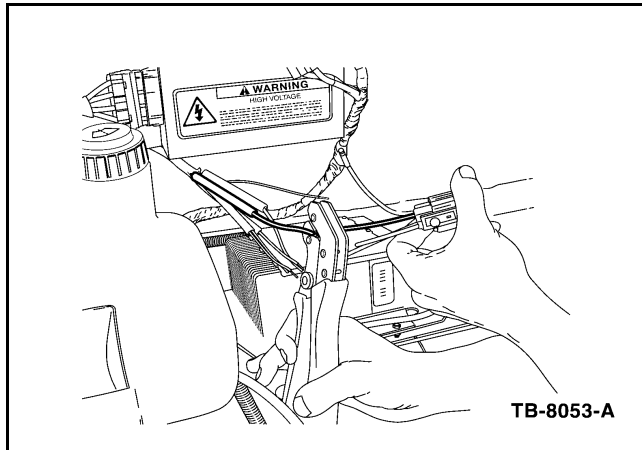

Figure 12 - Article 04-24-9
2. Strip back the insulation 1/8" (3 mm) from the end of the orange/grey wire that was terminated by cutting off the 9-pin charger connector. Slide over a 2" (5 cm) piece of heat shrink over the orange/grey wire, butt splice the orange/grey wire to the kit supplied stub harness wire colored orange/grey (Figure 12). This is the 72V power wire.